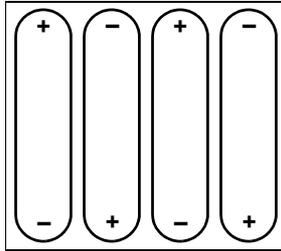

Figure 12 Battery orientation
- 4 Replace the batteries, with polarities oriented as shown in Figure 12.
The charger has detected a fault condition. Turn the unit OFF, and then disconnect the external power adapter. Verify that the batteries installed in your unit are NiMH batteries, and that they are installed in the proper orientation (see Figure 12 on page 106). Always use JDSU recommended batteries in your unit.